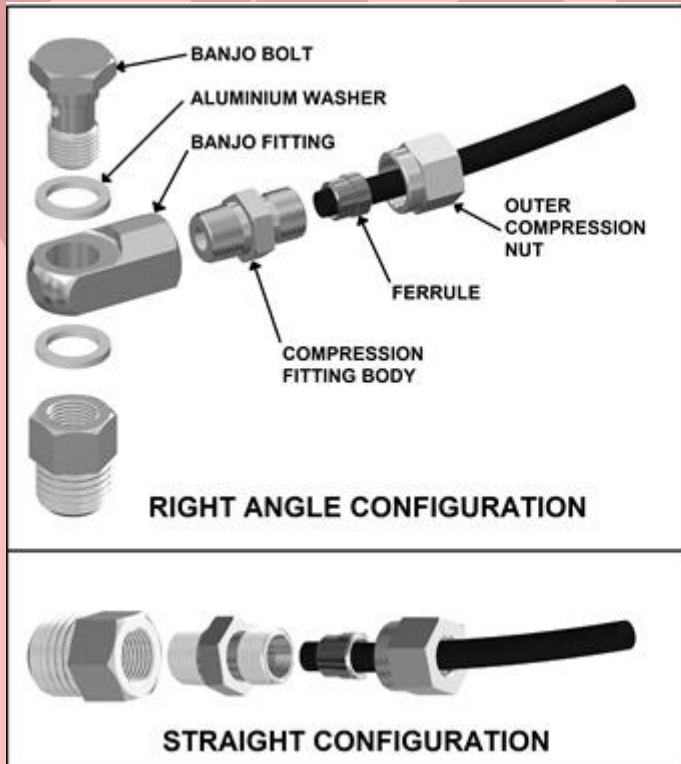

Figure 13. Air Locker bulkhead fitting assembly (170114)
- ☐ Insert the outer compression nut and ferrule over the air line. Ferrule should be oriented as per Figure 13.
**NOTE:** When right angle routing of the tube is not required, screw the compression fitting body straight into the bulkhead fitting body (Figure 13).